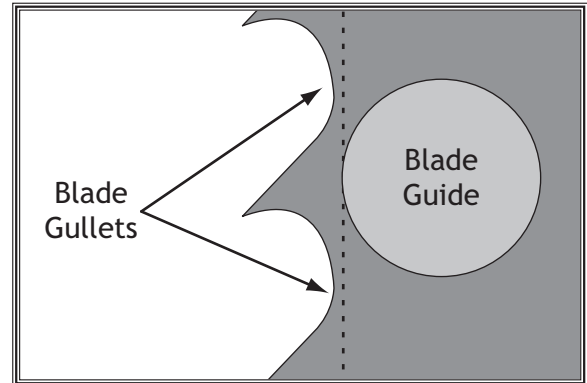

Figure 29. Lateral adjustment of blade guides.
5. Slide the guide assembly so the front edges of the blade guides are just behind the blade gullets as illustrated in **Figure 29**, then tighten the lateral adjustment thumb screw.